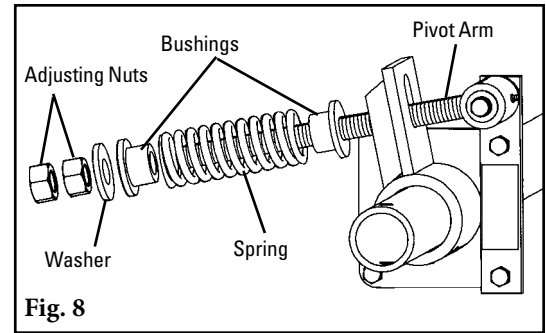

Fig. 8
14. **Reassemble the spring assembly.** Slide the spring, washer and bushings onto the pivot arm and turn the two adjusting nuts so about 1/4" of the pivot arm is exposed above the nuts (Fig. 8).